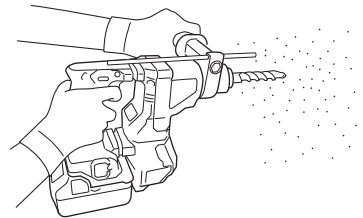

Fig. 20
- (1) Install the drill bit.
- (2) Pull the switch trigger after applying the drill bit tip to the drilling position. (Fig. 20)
- (3) Pushing the rotary hammer forcibly is not necessary at all. Pushing slightly so that drill dust comes out gradually is just sufficient.
When the drill bit touches construction iron bar, the bit will stop immediately and the rotary hammer will react to revolve. Therefore please grip the side handle and handle tightly as shown in Fig. 20.